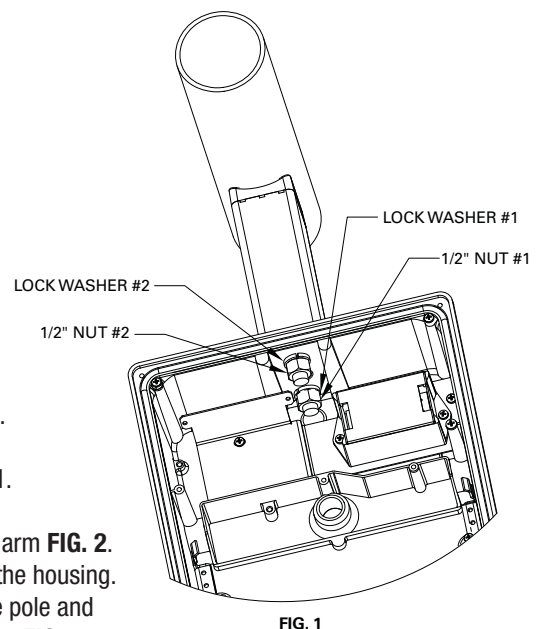

FIG. 1
3. Install the 1st mounting bolt through the top side hole at the back of the fixture. Slide a lock washer and nut onto the bolt inside the housing but do not tighten **FIG. 1**.
4. Install the 2nd mounting bolt through the bottom side hole at the back of the fixture. Slide a lock washer and nut onto the bolt inside the housing but do not tighten **FIG. 1**.